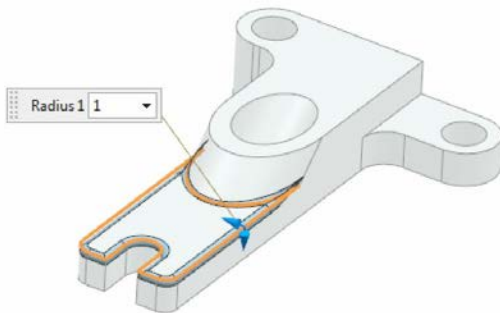

Figure 13-114 Edges selected to apply fillet
- l. Apply fillets to the base plate using the **Edge Blend** tool, refer to Figure 13-114.
2. Select the **Circular** option from the **Shape** drop-down list in the **Edge** rollout and then select the edges of the base plate, refer to Figure 13-114.